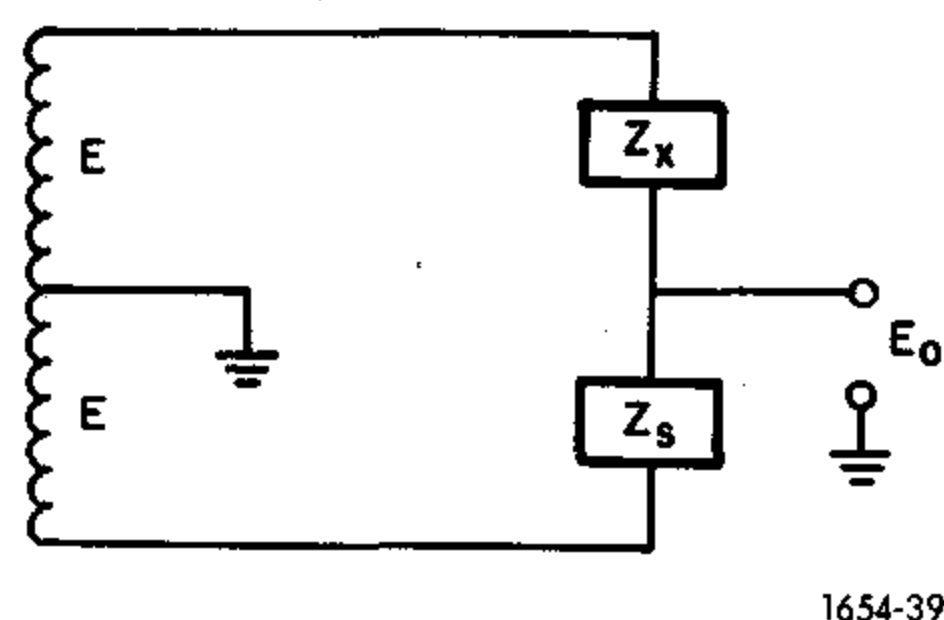

Figure 5-4. Basic bridge circuit.
The basic bridge circuit is shown in Figure 5-4. If the voltages (E) across the inductively coupled ratio arms are equal, the output voltage (E_o) is: